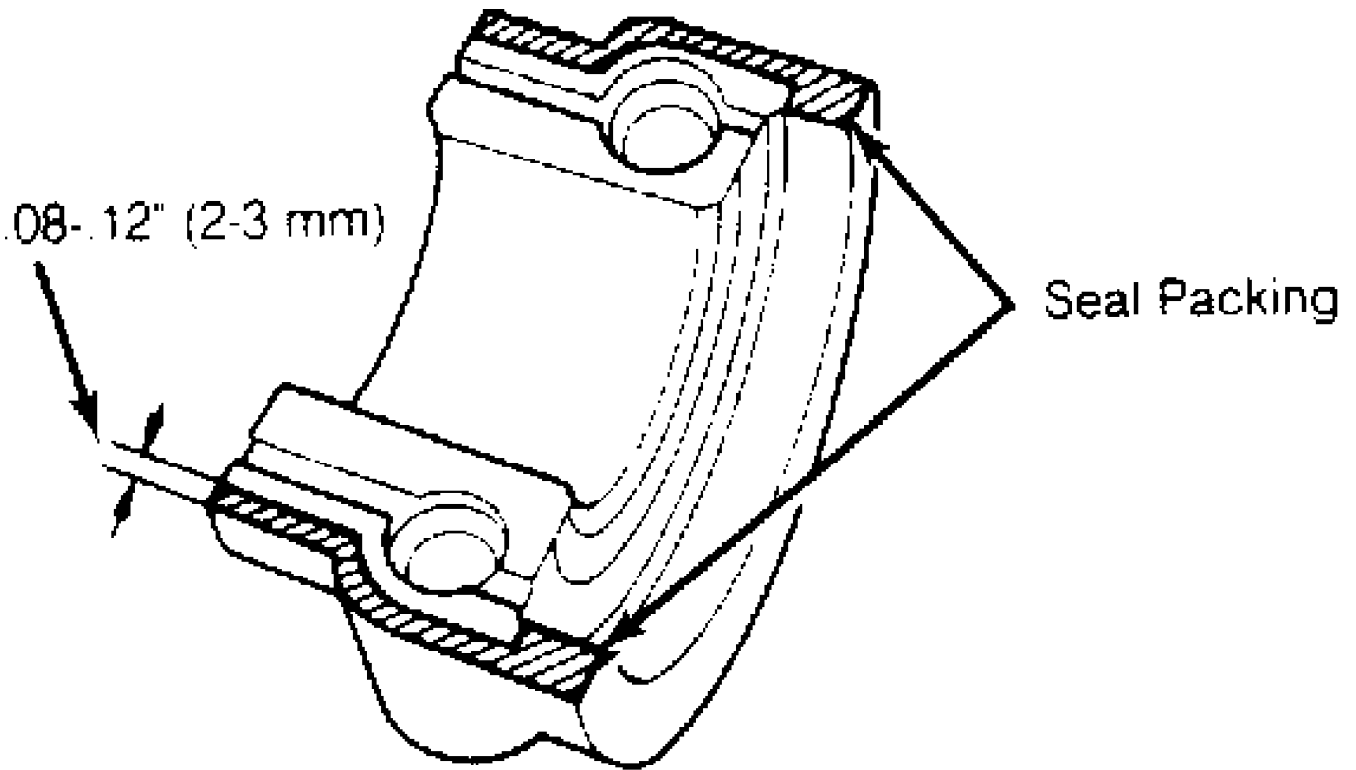

Fig. 17: Seal Packing Installation Location
2) Apply multi-purpose grease to thrust portion of camshaft. Install intake camshaft at 80 degrees BTDC of camshaft angle on cylinder head. Apply Seal Packing (08826-00080) to No. 1 bearing cap. See Fig. 17.